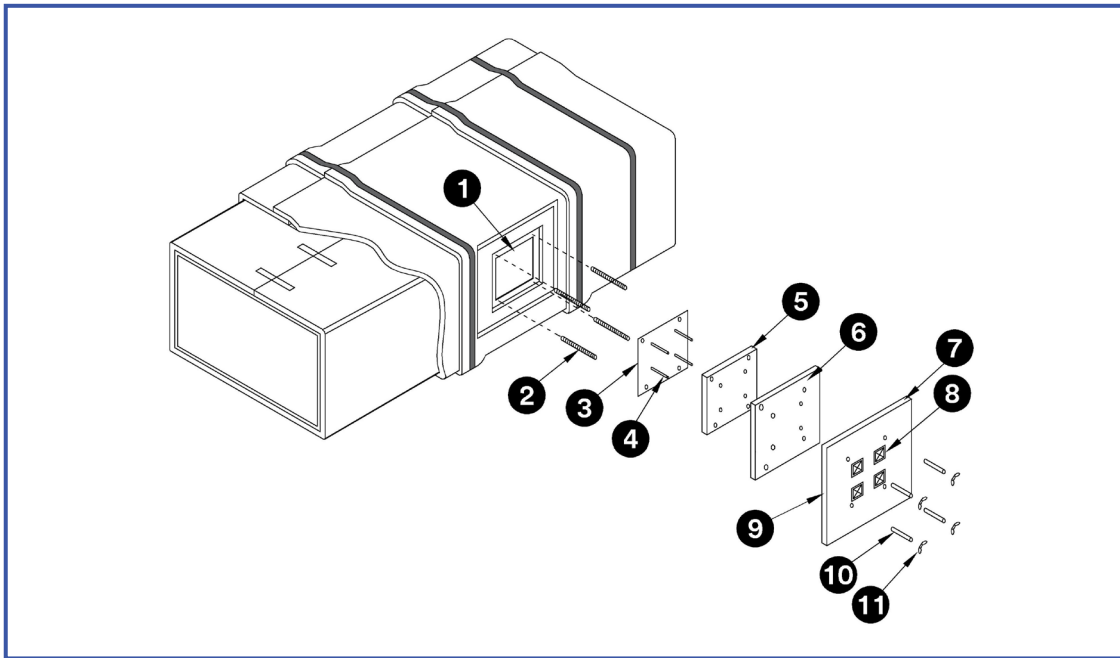

Figure 3 – Field-fabricated 1 or 2-hour access door for commercial kitchen exhaust duct systems
When a specific item number is mentioned, it corresponds with numbered items in Figure 3. Mark a clean-out access opening location on the grease duct, with insulation at its mid-height along the horizontal section. Cut a 305 mm by 305 mm (12 in. by 12 in.) opening in the insulation. Remove and discard the cut insulation. Cut and centre a 254 mm by 254 mm (10 in. by 10 in.) opening into the side of the grease duct by maintaining a 25 mm (1 in.) clearance between the perimeter of the opening and cut insulation (Item 1). Remove and discard the cut steel. Weld four (4), minimum 102 mm (4 in.) long, 6 mm (1/4 in.) diameter, steel threaded rods to the grease duct (Item 2). Locate one (1) steel rod at each corner of the grease duct opening so that they are all 280 mm (11 in.) on centre and squared within the insulation opening.